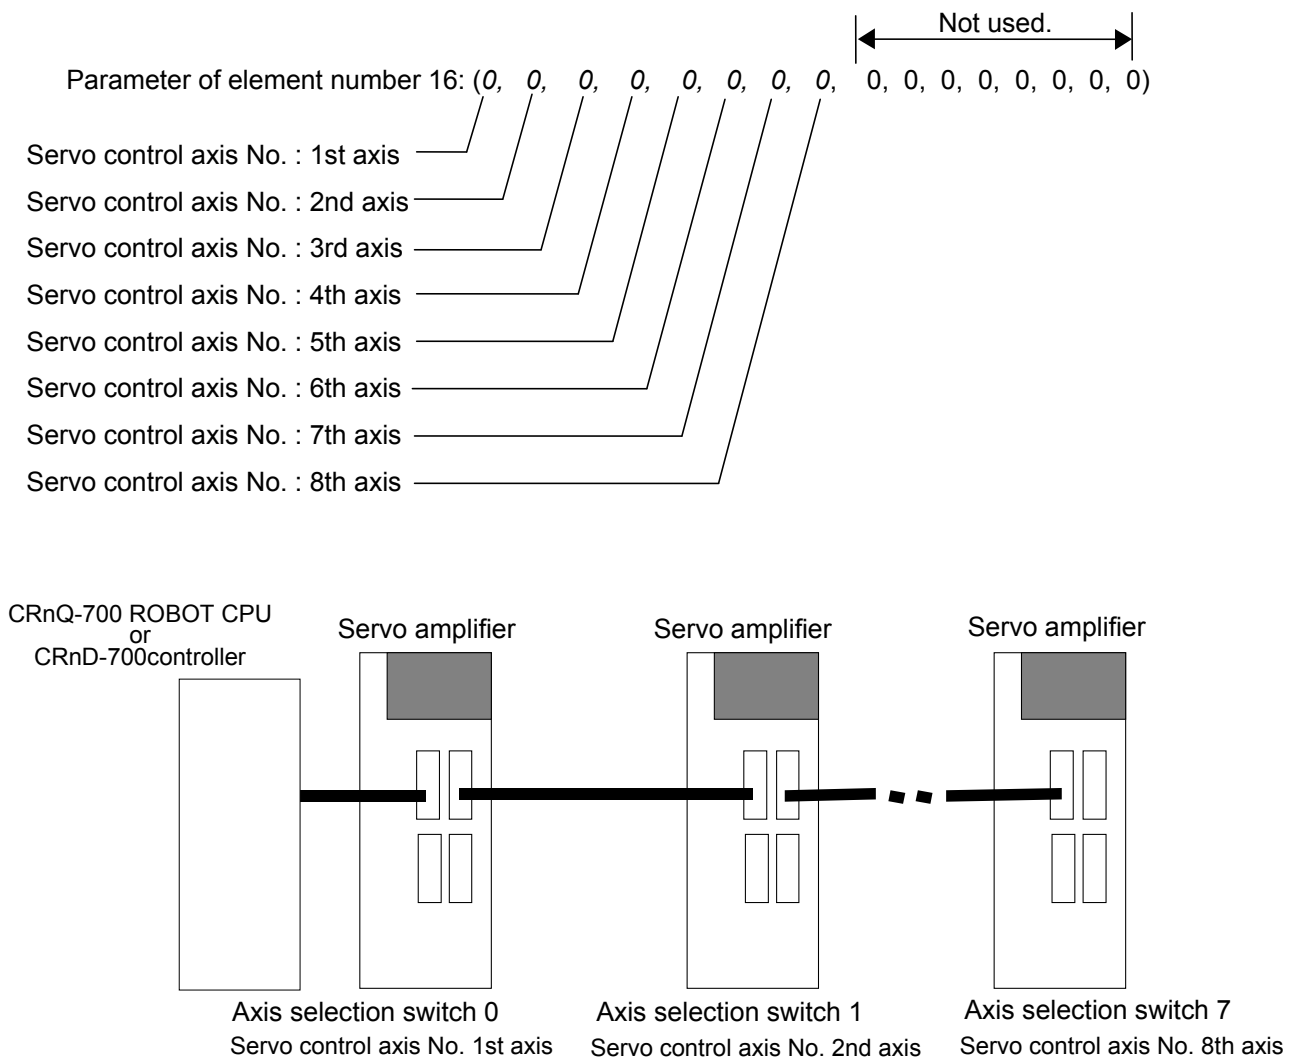

Fig. 7.1.1 Control No. and parameter element of servo
- (2) AXMENO (mechanism No. designation)
- (3) AXJNO (Setting axis No.)
- (4) AXUNT (unit system)
- (5) AXSPOL (motor rotation direction)
- (6) AXACC (acceleration time) · AXDEC (deceleration time)
- (7) AXGRTN (total speed ratio numerator) · AXGRTD (total speed ratio denominator)
- (8) AXMREV (rated rotation speed) · AXJMX (maximum rotation speed) · AXENCR (encoder resolution)
- (9) AXJOGTS (JOG smoothing time constant)
- (10) MEJAR (joint operating range)
- (11) USERORG (user designated origin)
Moreover, the parameter elements of (2) to (9) correspond to the control axis Nos. of the servo as shown in "Fig. 7.1.1 Control axis No. and parameter element of servo". If any personal computer support software (which enables the program editing, parameter setting, various monitors, etc., of the robot) is used, (10) and (11) are the mechanical parameters and the others are arranged in the common parameters.